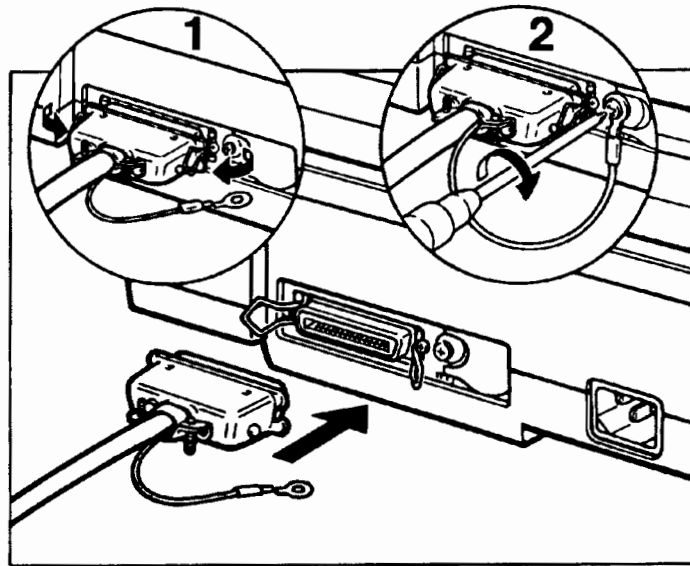

Figure 4-7. Connecting the Interface Cable to the Scanner
3. Attach the other end of the interface cable to the connector on the back of the scanner by pushing the wire loop connectors into the holders on the interface cable. See figure 4-7.
4. Remove the screw located to the right of the scanner connector, insert the screw into the loop end of the ground wire, and replace the screw in the scanner. See the inset figure 4-7.